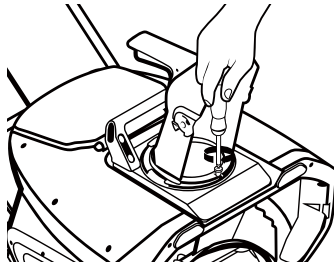

Fig. 11
2. Use the provided hex wrench to secure the discharge chute in place with the provided screw. (see Fig. 11)